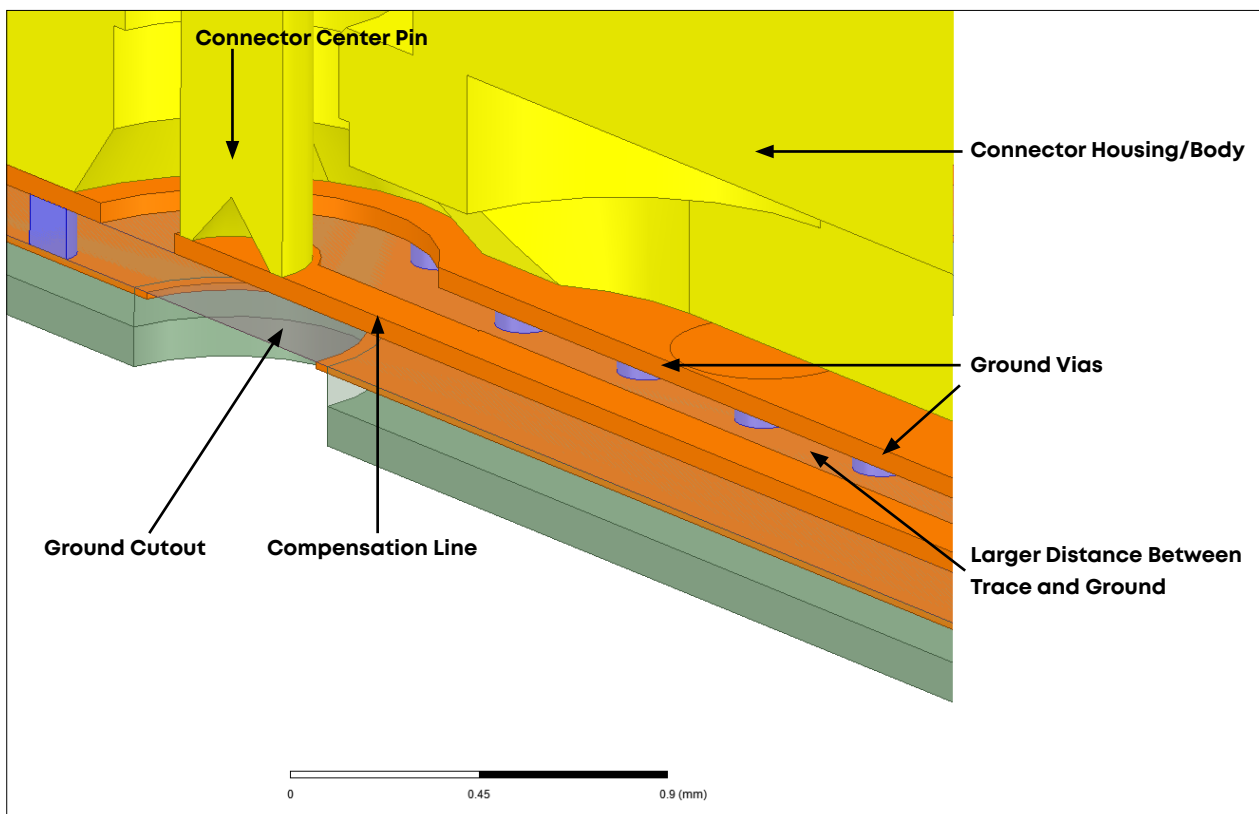

Fig. 2: MXPM90 connector-to-board transition optimized for high frequency performance.
To achieve the specified performance using the MXPM board connector, HUBER+SUHNER recommends using electromagnetic (EM) simulation to optimize the user's board footprint for the connector. Begin by choosing the transmission media on the board – typically microstrip, stripline or grounded coplanar waveguide (GCPW) – and the board structure, i.e., board material and thickness, number of layers, metallization and thickness. Design an initial layout of the footprint, analyze the performance of the interface and iterate the layout to optimize performance. To illustrate, the design of a transition to GCPW using the board stack-up of Table 1 was optimized, resulting in the footprint shown in Figure 2.